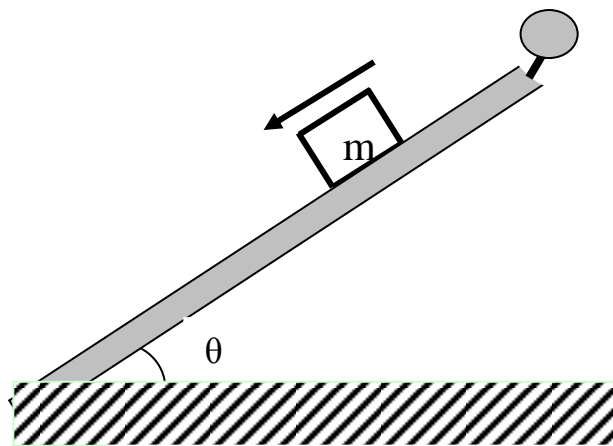

Figure 9.2: Equipment Setup
- 9- Place the cart with the friction block on the ramp. Set up the ramp (see Fig. 9.2) at a relatively low angle (one that does not cause the friction block to begin sliding down the ramp by itself).